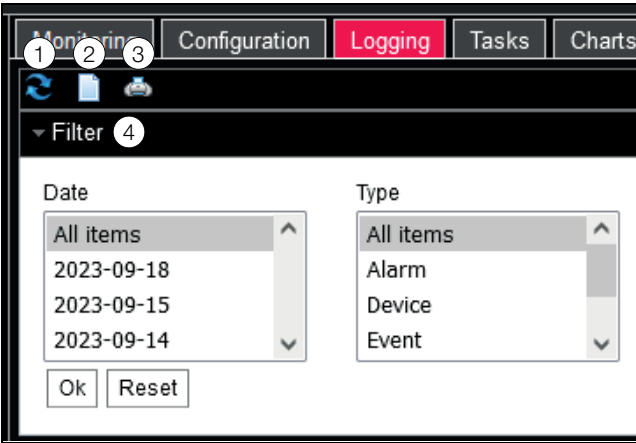

Fig. 69: Logging tab
■ Click on the first symbol on the left (fig. 69, item 1).
■ Click on the first symbol from the left (fig. 69, item 1).
■ Click on the third symbol from the left (fig. 69, item 4).
- Click on the second symbol from the left (fig. 69, item 2).